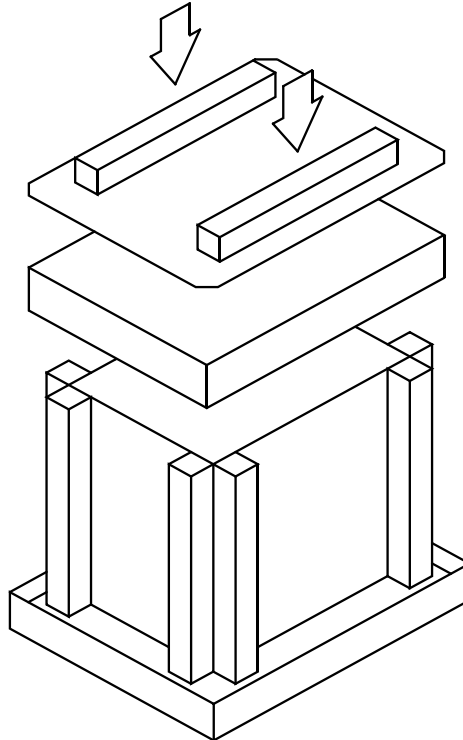

Figure 7-8 Placing the accessory box and top on the library
5. If you are shipping the library's accessories, place the accessory box on top of the library, as shown in Figure 7-8.
6. Place the cushioned top over the accessory box, as shown in Figure 7-8.